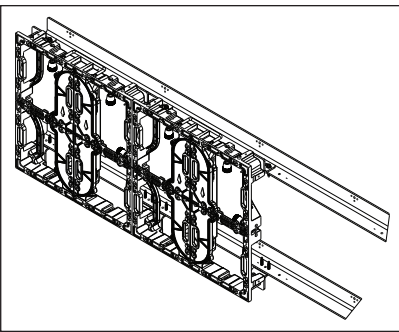

Figure 4: Install Side-to-Side Display Panels
- g. Position the next display panel in place on the substructure beside the existing panel and engage all applicable draw latches per the panel interconnect engagement instructions in the **DVN-3000 Series Panel Installation Quick Guide (DD4731666)**. Refer to **Figure 4**.